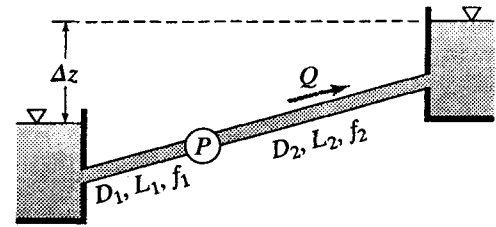

Figure P15.14
- 15.14 A centrifugal pump is installed to deliver water from a reservoir of water surface elevation zero to another of elevation 300 ft (Fig. P15.14). The 12-in-diameter suction pipe ( $f = 0.020$ ) is 100 ft long and the 10-in-diameter discharge pipe ( $f = 0.026$ ) is 5000 ft long. The pump characteristic at 1200 rpm is defined by  $h_p = 375 - 24Q^2$ , where the pump head  $h_p$  is in ft and  $Q$  is in cfs. Calculate the rate at which this pump will deliver water, assuming the setting is low enough to avoid cavitation.